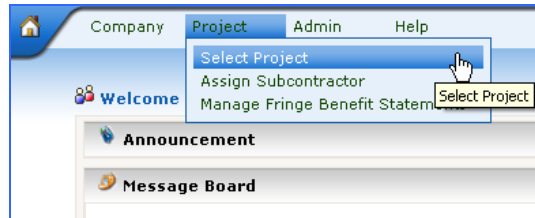

Figure 12 - Selecting a Project Screen
2. Scroll down to “Select Project” (Figure 12).